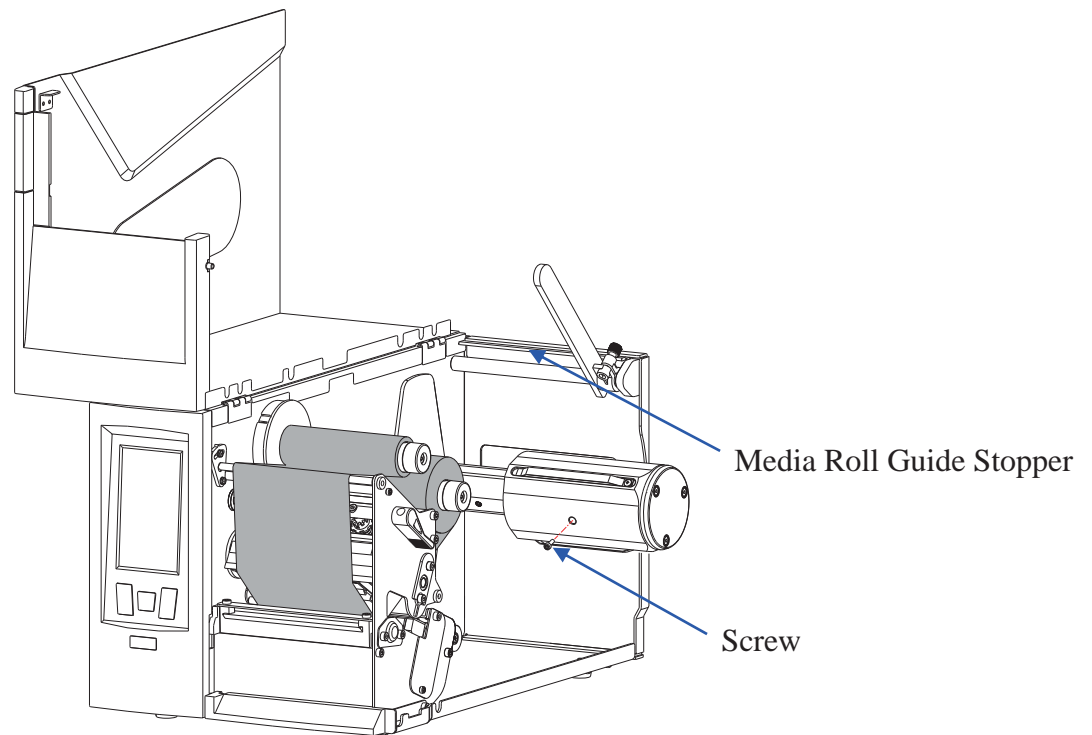

Figure 2-14 Remove the 3" Core Adapter
1. Remove the 3" core adapter. Refer to Figure 2-14. Use the Allen wrench bundled with the printer to remove the screw securing the 3" core adapter, and then slide the 3" core adapter out to remove it from the printer.